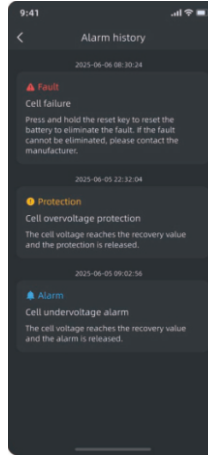

Figure 2
2) Figure 2: Click on "Alarm Information - Alarm history" to view the historical alarms of the battery pack.